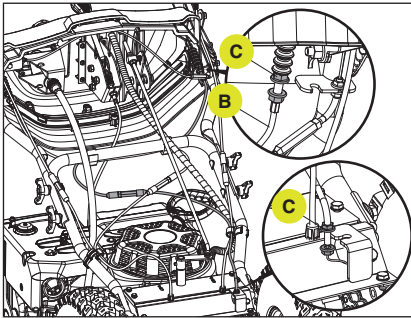

Figure 51
3. Locate the cable (B), slide back any rubber boot and loosen the top nuts (C) on each end of the cable as shown. (Fig. 51)